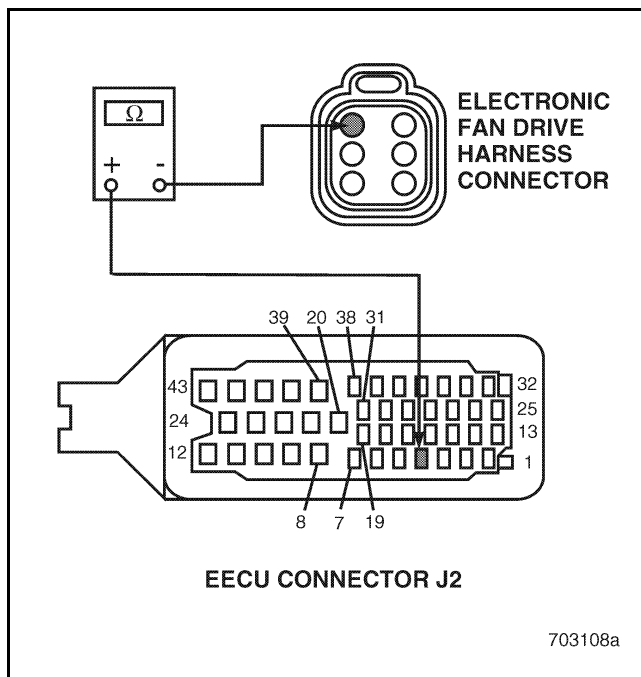

Figure 124
4. Check for continuity between EECU harness connector J2 pin 4 and electronic fan drive harness connector pin 1 (see Figure 124).